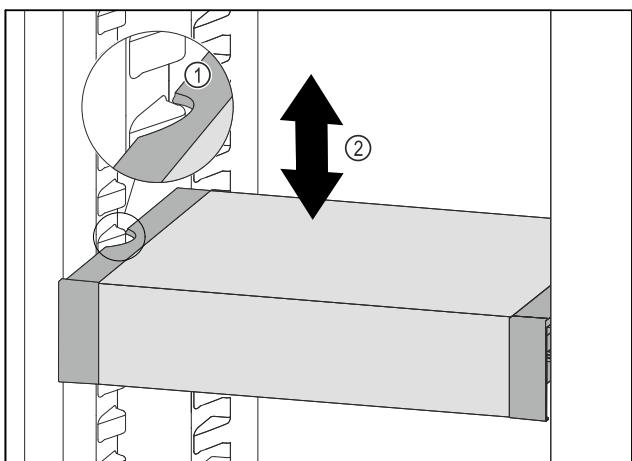

Fig. 88
- ▶ Pull VarioSafe forwards until the recesses in the side of the VarioSafe are at the level of the support rib in the refrigerator compartment. Fig. 88 (1)
- ▶ Move VarioSafe up or down in the refrigerator compartment until the desired height is reached. Fig. 88 (2)